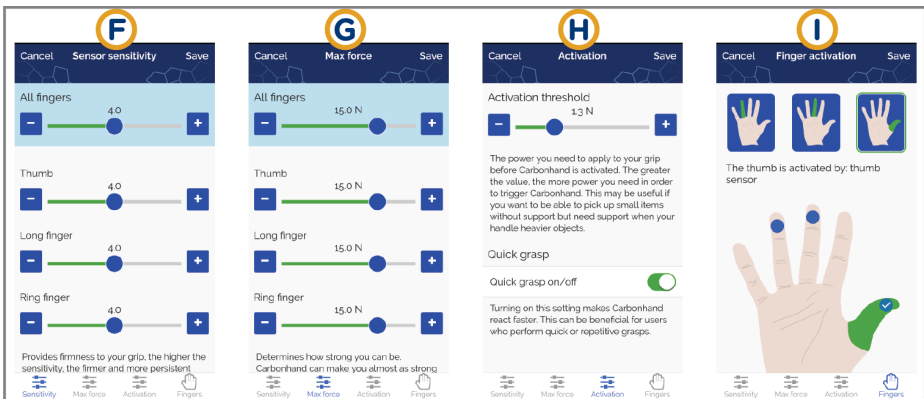

Figure 21: The Carbonhand App. The features that can be modified.
1. Select **Sensitivity** (figure 21 F).
1. Select **Max force** (figure 21 G).
1. Select **Activation** (figure 21 H).
1. Select **Fingers** (figure 21 I).